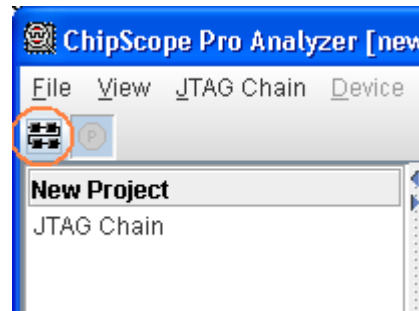

Figure 9-5: Open Cable/Search JTAG Chain Icon
2. Click the Open Cable/Search JTAG Chain icon, circled in Figure 9-5.